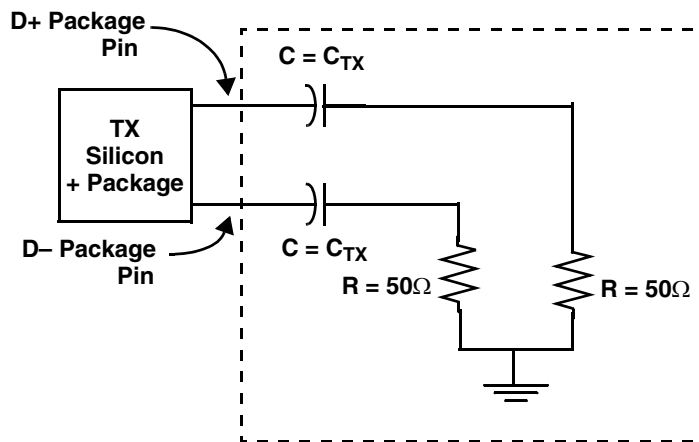

Figure 47. Compliance Test/Measurement Load
- ² Specified at the measurement point into a timing and voltage test load as shown in Figure 47 and measured over any 250 consecutive Tx UIs.
Transmitter and receiver AC characteristics are measured at the transmitter outputs (SD_TX n and SD_TX_B n) or at the receiver inputs (SD_RX n and SD_RX_B n). The AC timing and voltage parameters must be verified at the measurement point, as specified within 0.2 inches of the package pins, into a test/measurement load shown in Figure 47.